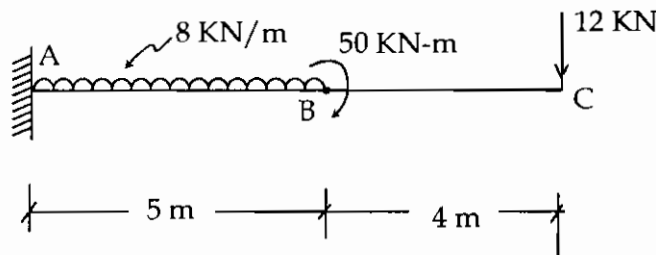

Figure 5 [ Q. No. 2 (C) ]
- (C) Determine the equation of the elastic curve for the cantilever beam shown in Figure 5. Also find the deflection at B and C. Assume EI constant. 12